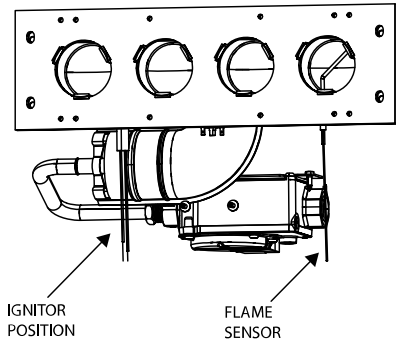

Fig. 67 – Igniter Position - Back View
- a. Using a 1/4-in. driver, remove the screw securing the flame sensor to the burner assembly, see Fig. 67. Retain factory-provided 1/4-in. screws.
7. To replace flame sensor and bracket assembly, reverse items 6a through 6d.
8. Reconnect flame sensor wire to the wire harness, dressing the sensor wires to ensure there is no tension on the flame sensor itself, see Fig. 67.
The igniter does **NOT** require annual inspection. Check igniter resistance before removal, see Fig. 67.
- a. Using a 1/4-in. driver, remove the two screws securing the igniter mounting bracket to the burner assembly, see Fig. 67. Retain 1/4-in. length screws.
6. To replace igniter and bracket assembly, reverse items 5a through 5d.
7. Reconnect igniter harness to the igniter, dressing the igniter wires to ensure there is no tension on the igniter itself, see Fig. 67.